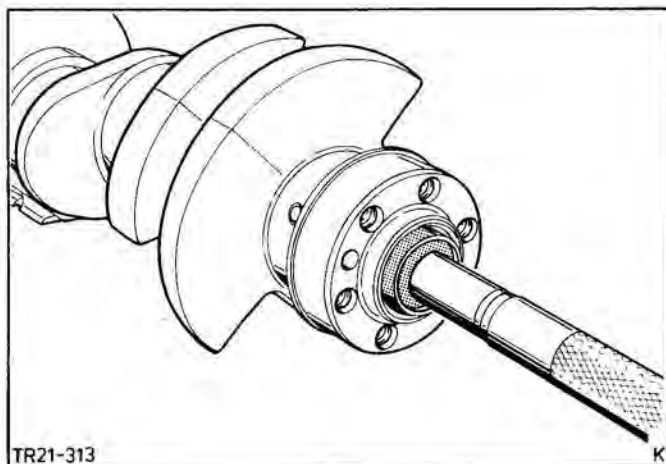

Fig.50. Press in pilot bearing.
33. Press new pilot bearing into the crankshaft using special tool 21-044, Fig.50. Fit crankshaft gear together with belt pulley, washer and bolt.